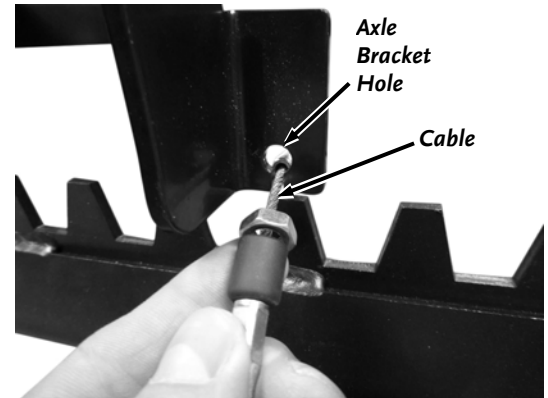

Figure 23
37. Slide the Cables into the slots of the Axle Brackets and pull the threads through the hole (**Figure 23**).